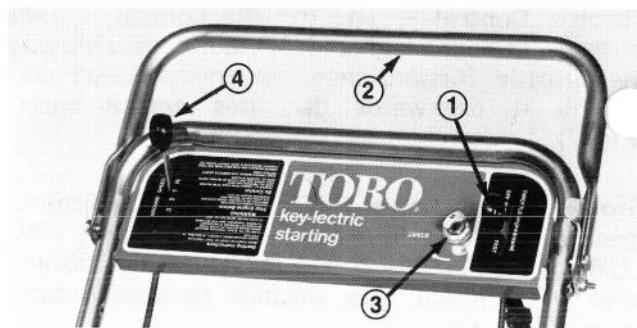

Figure 12
1. Move throttle control forward to FAST position and ground speed control to N (NEUTRAL) (Fig. 12).
2. Insert key into the key switch until it snaps in place (Fig. 12). Rotate key to START position to start the engine. Release key immediately when engine starts running and regulate the throttle to desired speed.